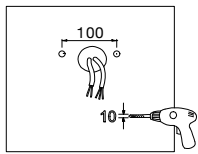

Figure 9
2. Yoke Mounting (YM)
STEP 1: Drill holes on the wall as shown. (FIGURE 9)